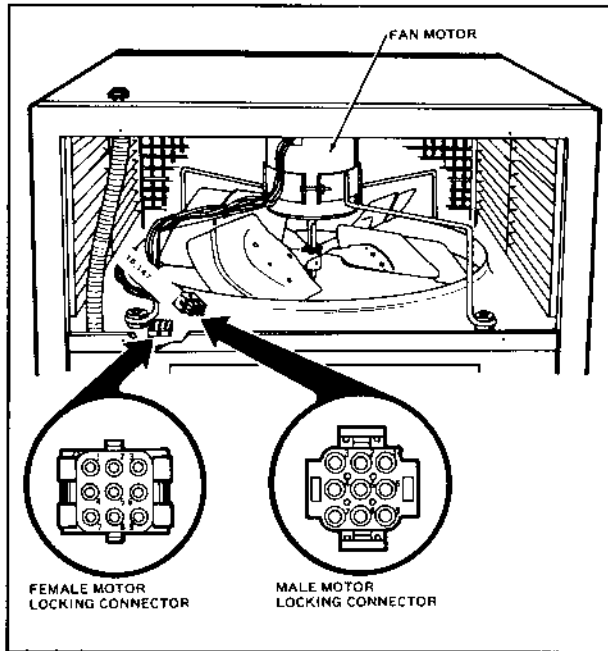

FIGURE 9 - MEASURING FAN MOTOR VOLTAGE
- d. Actuate the interlock switch (push prefilter screen in) and measure voltage at plug pin for each fan speed setting as shown in Figure 9.